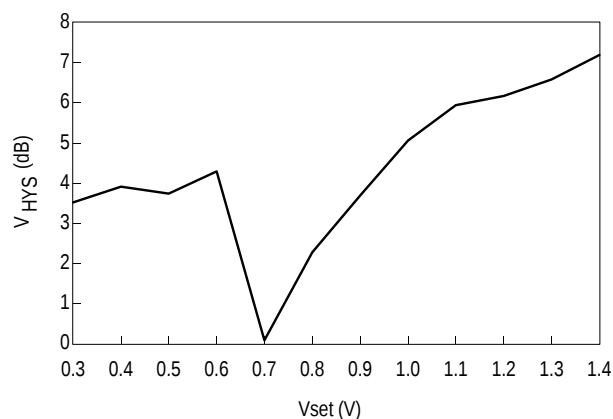

Figure 3. LOS Hysteresis ($T_A = 25^\circ\text{C}$)
2. This device has an anomaly in V_{HYS} when $0.65 < V_{SET} < 0.75V$. Operation in this region is not recommended. (See Figure 3)